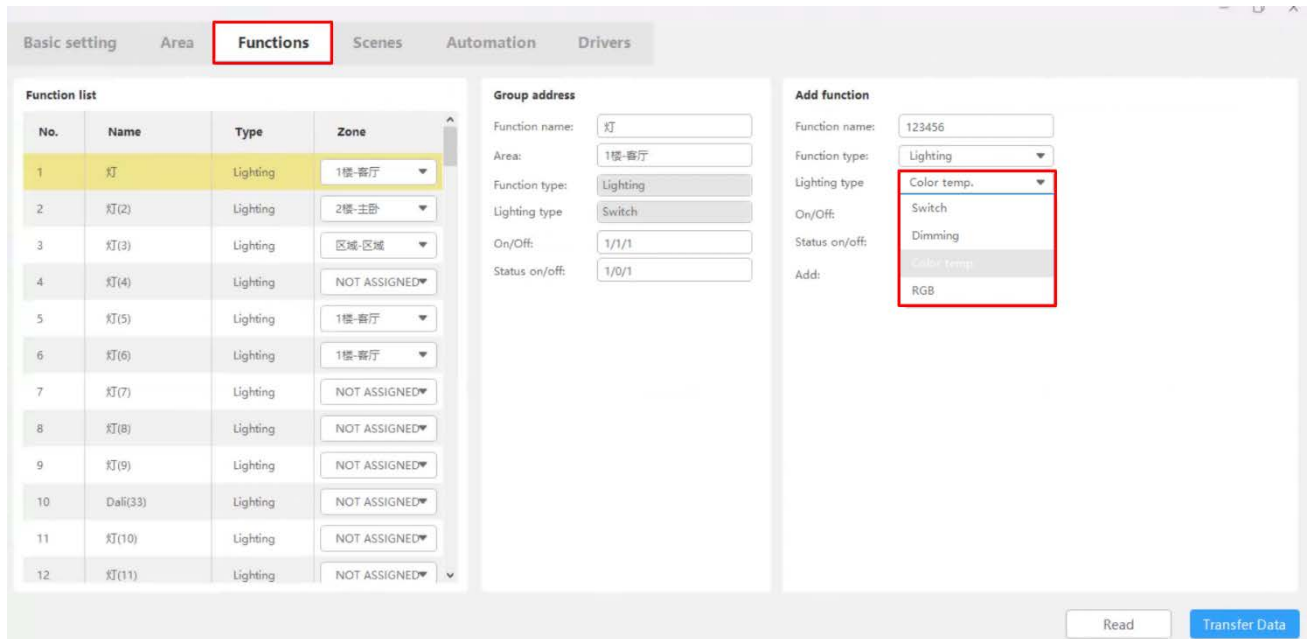

Figure 5-2 Lighting
- Lighting: As shown in Figure 5-2, you can select lighting type, including switch, dimming, color temp., RGB.